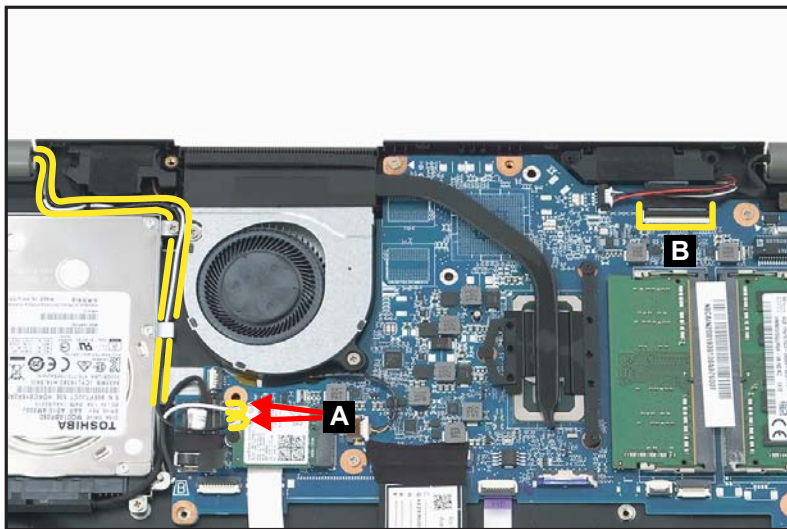

Figure 1-29. LCD Module Removal
1. Disconnect the WLAN antennas cables (A) from the WLAN module connectors (Figure 1-29).
2. Unroute the WLAN antennas cables from the guides on the top assembly (Figure 1-29).
3. Disconnect the eDP cable from the mainboard connector (B) (Figure 1-29).